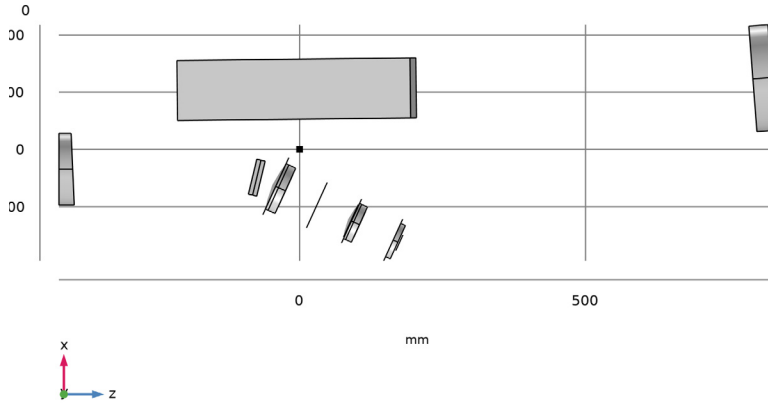

Figure 2: The white pupil échelle spectrograph geometry sequence.
The full geometry sequence (including the scaled Petzval Lens) can be seen in Figure 2. As noted above, the spectrograph geometry is fully parameterized, and hence the model can be adjusted using the globally defined parameters.
- 9 Click the  **Zoom Extents** button in the **Graphics** toolbar. Orient the view to place the z-axis (optical axis) horizontal and the y-axis vertical. Compare the resulting geometry to Figure 2.